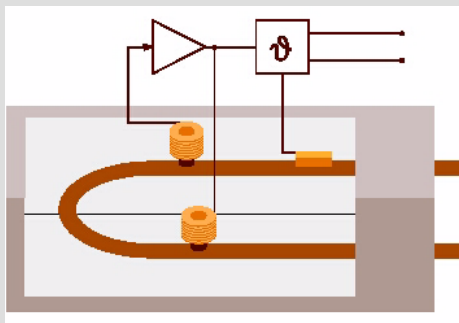

Fig. 3 The oscillating U-tube
Inside the DPRn 427(I) transducer is an oscillating U-tube system. It is excited and kept oscillating at its resonant frequency by two coils and an electronic circuit (see Fig. 3).